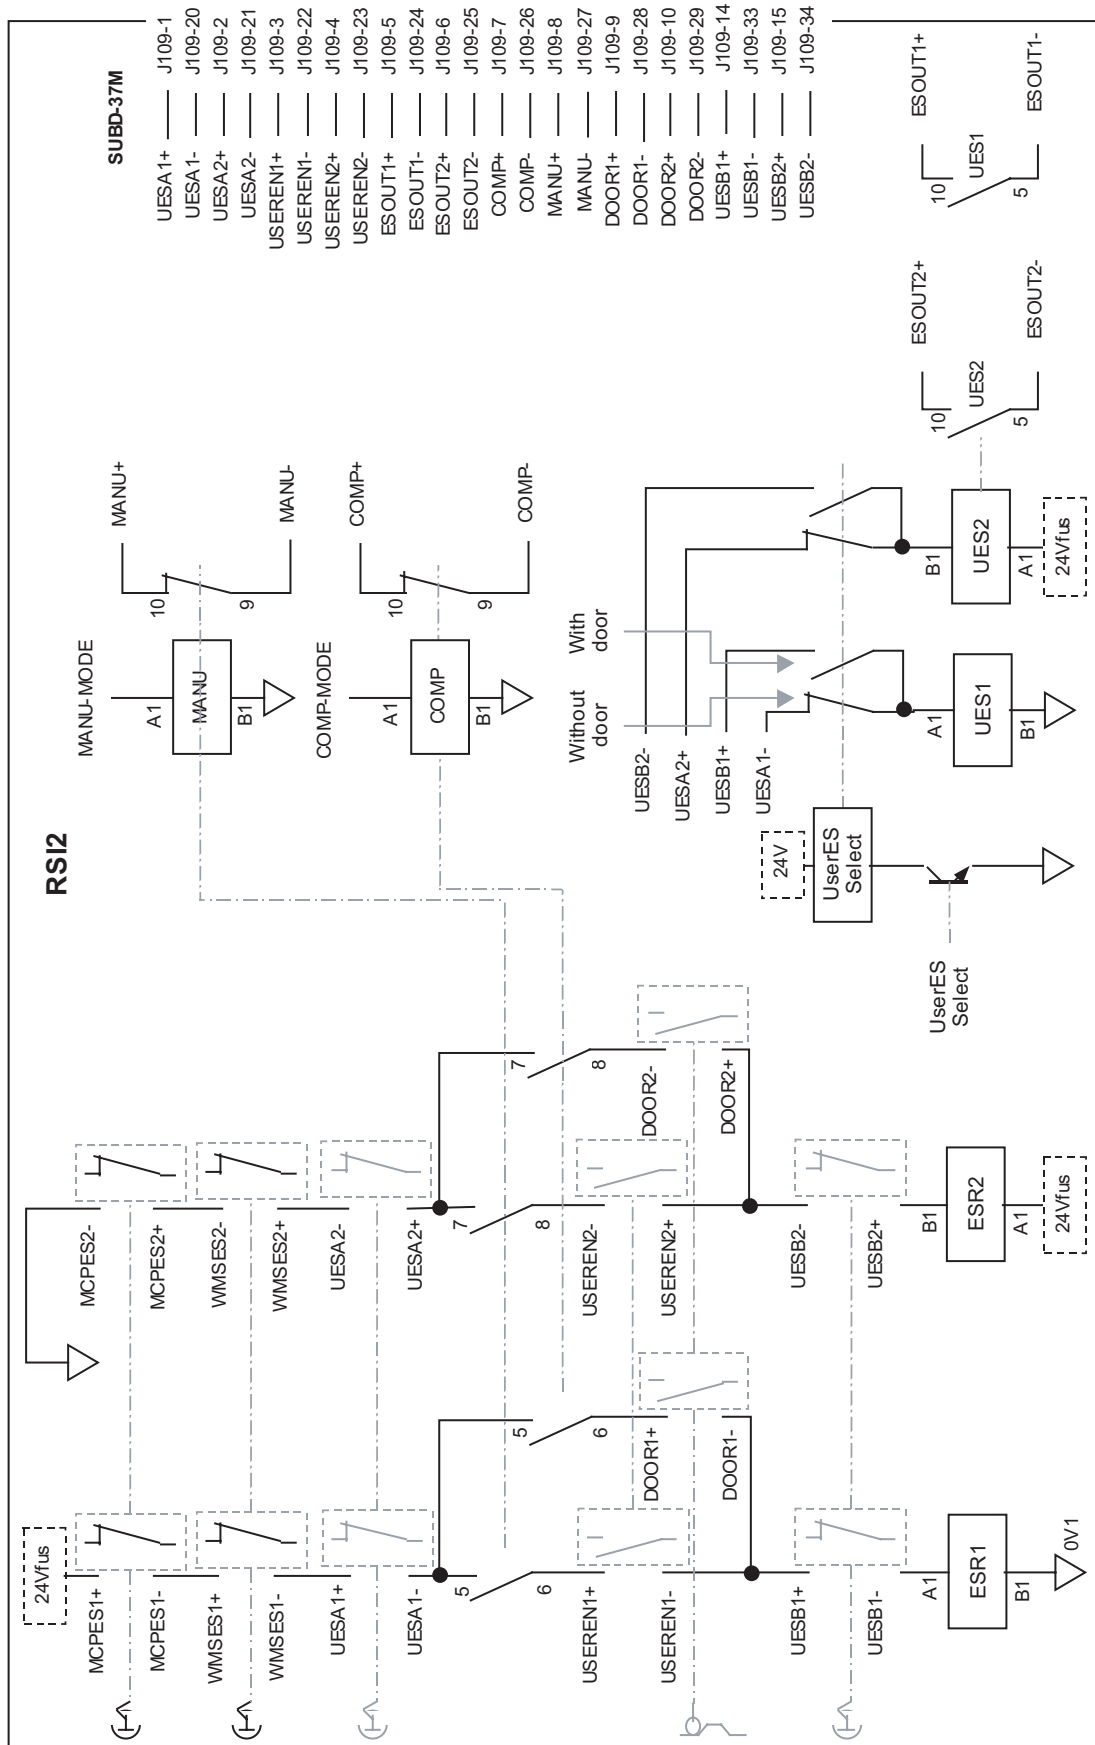

Figure 5.1
(see figures 5.1 and 5.2)
- Two parallel channels corresponding to the automatic (**COMP**) and manual (**MANU**) modes, if controller configuration is "configuration 1" (see below) (figure 5.1).
Status of the emergency stop channels (**ESOUT1** and **ESOUT2**) are available for the application using one of the controller configuration below (figure 5.1).